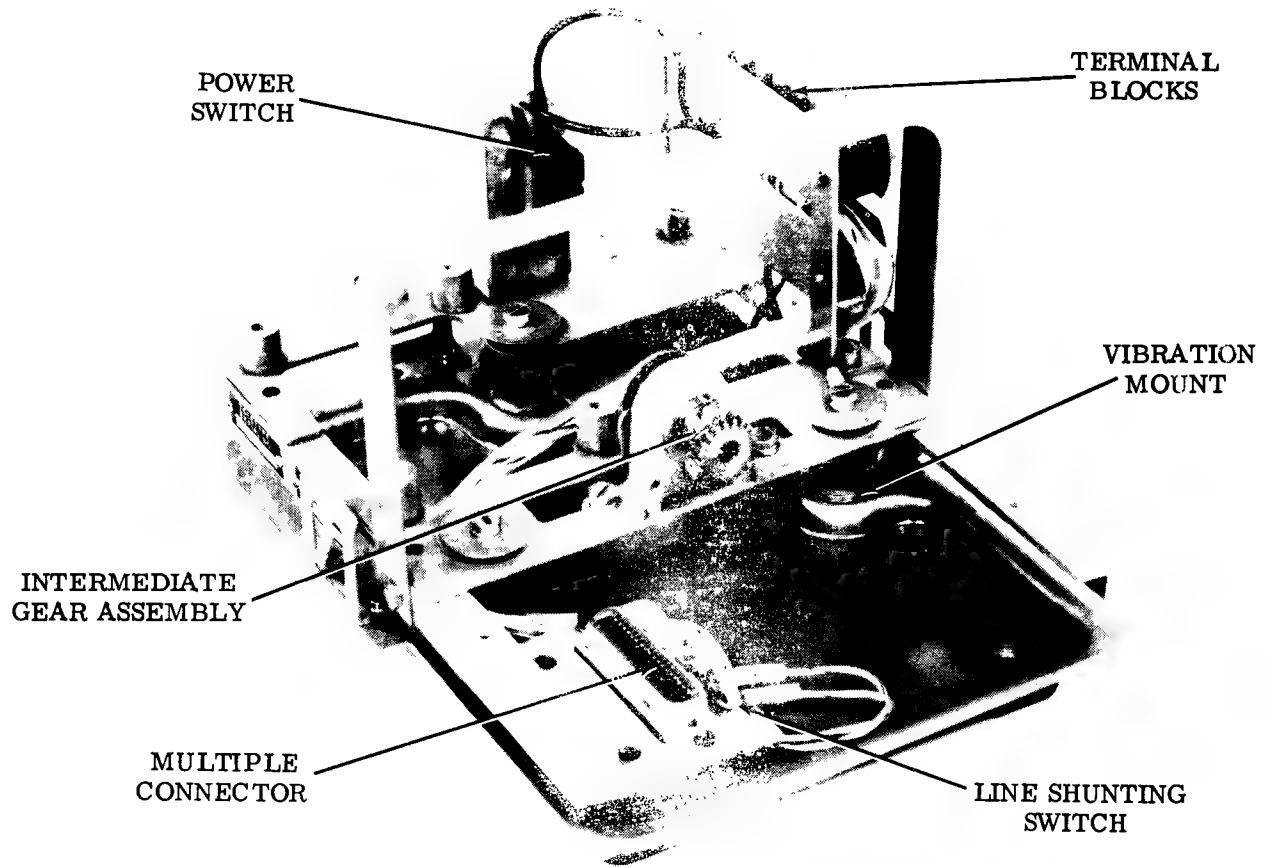

Figure 5 - [illegible] [illegible]
2.12 This base is designated miniature because of its compactness (Figure 5). The mounting facilities for a transmitter distributor are virtually the same as those for the single contact transmitter distributor base. However, this base is much shorter and lighter since the motor used on it is small and requires very little space for mounting.